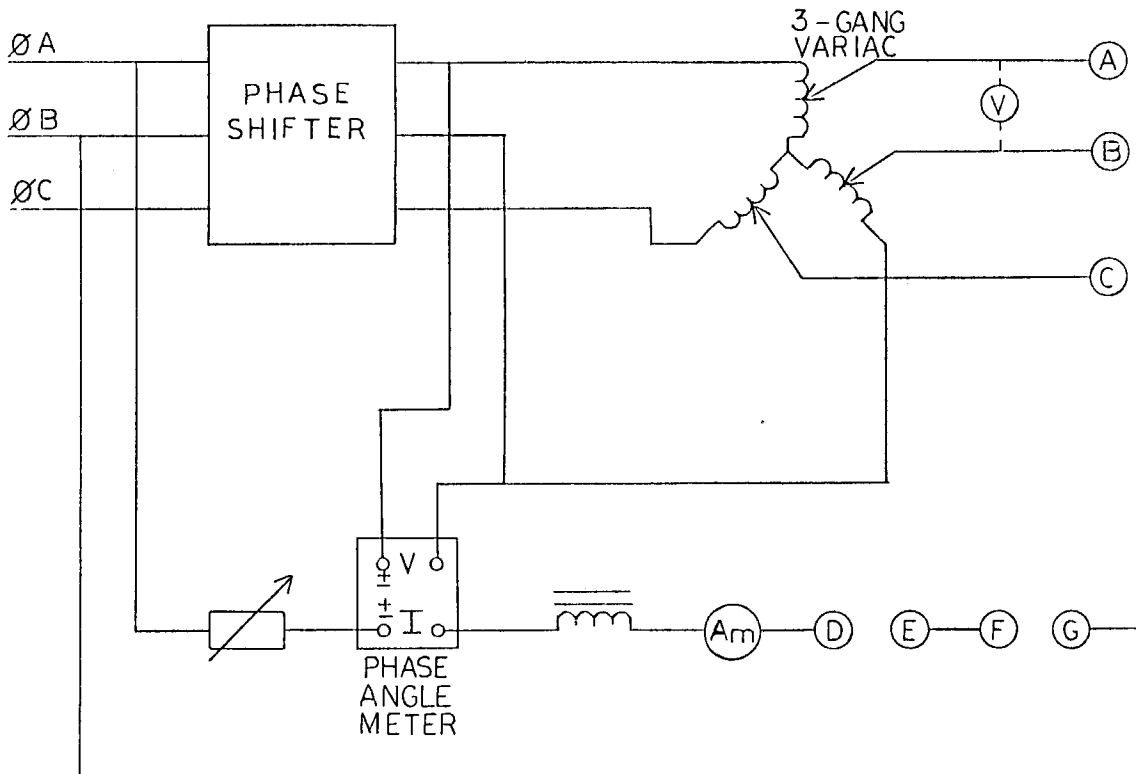

Fig. 7 (0246A6880-1) MT/MOB Function Test Circuit
7. If an offset characteristic is being used, it can be checked using the circuit shown in Fig. 7 and the connections shown on Table VI or Table VII.
1. Use the test circuit of Fig. 7. Start with the A-B phase pair connections from Table VI or VII. Set the current for desired current (Table VIII). Monitor the output at TP5 for phase pair A-B, TP7 for B-C or TP9 for C-A.